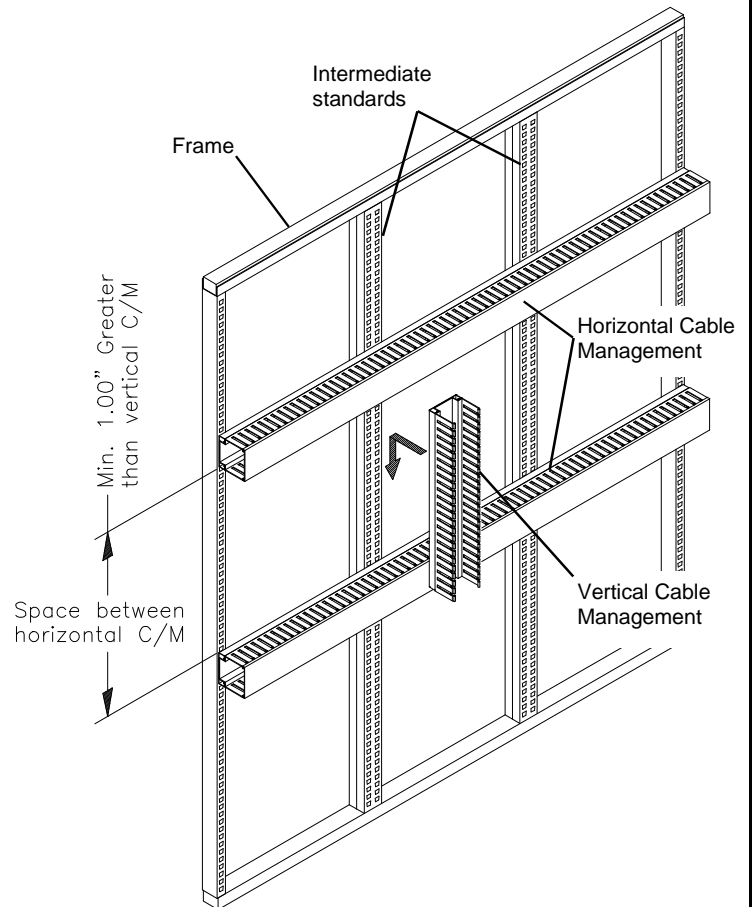

Figure 1
1. Ensure that the total space between the two Horizontal C/M sections is a minimum of 1.00" greater than the length of the Vertical C/M section(s) being installed. Adjust as necessary. See **figure 1**.